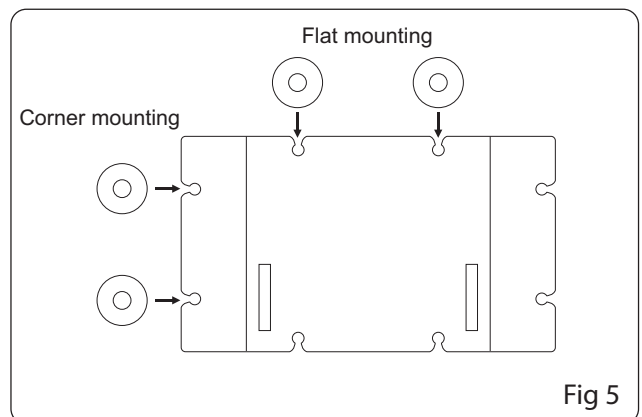

Fig 5
2. Attach the suction cups to the mounting bracket. For mounting on a flat surface such as the side or back of the aquarium, attach the suction cups to the top and bottom of the mounting bracket. For mounting in the corner of the aquarium, attach the suction cups to the outside edges of the mounting bracket (fig 5).